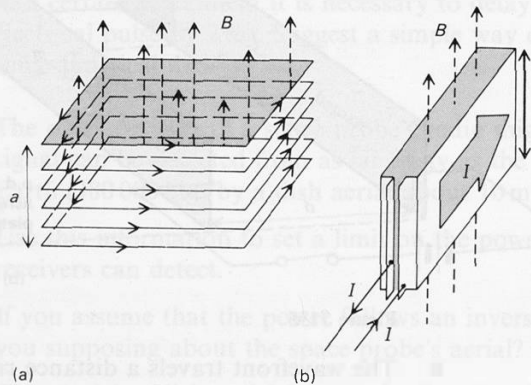

Figure J137
- f** If the plates carry current there must be a B -field between them. To help visualize how the plates produce a B -field, and to link up with work on solenoids, it is useful to think of the plates as rather like a flat solenoid in which the many wires wound around a solenoid have become one wire – the plates themselves. In figure J137(a), if the solenoid has N turns in width a , the B -field inside it and well away from its ends is given by:
What will the B -field be in figure J137(b) when there is *one* turn in width a ?